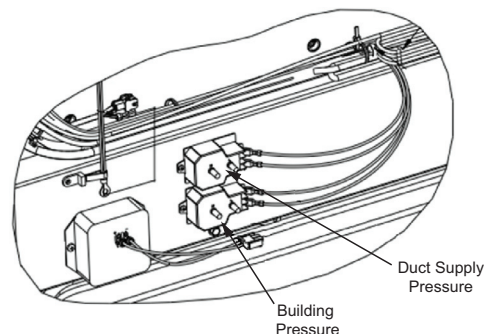

Fig. 51 — Pressure Transducer Layout (Cover Removed)
The tubing for the multi-zone VAV duct supply pressure (SP) control option should sample supply duct pressure approximately 2/3 of the way out from the unit in the main trunk duct, at a location where a constant duct pressure is desired. Connect the other end of the tubing to the high side pressure pickup port on the SP transducer. See Fig. 51 for supply pressure transducer layout
The tubing for the building pressure (BP) control should sample building pressure in the area near the entrance lobby (or other appropriate and sensitive location) so that location is controlled as closely to design pressures as possible. Keep the pressure pickup port away from exhaust inlets, supply grills, return grills, or other locations that can affect the sensor reading. Connect the other end of the tubing to the high side pressure pickup port on the BP transducer. See Fig. 51 for building pressure transducer layout.